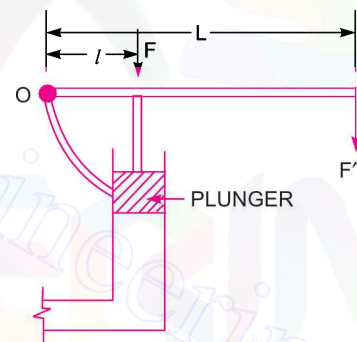

Fig. 21.2
**21.2.2 Leverage of the Hydraulic Press.** If a lever is used for applying force on the plunger, then a force  $F'$  smaller than  $F$  can lift the weight  $W$  as shown in Fig. 21.2. The ratio of  $L/l$  is called the leverage of the hydraulic press.